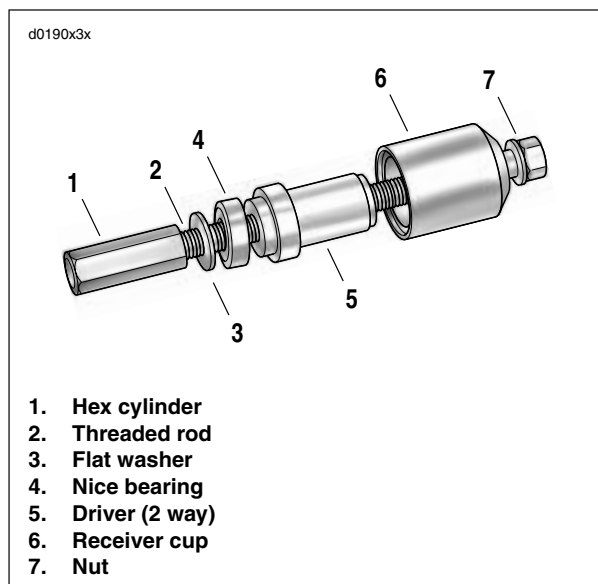

Figure 3-97. Connecting Rod Bushing Remover/Installer (Part No. HD-95970-32D)
2. See Figure 3-97. Attach PISTON PIN BUSHING TOOL (Part No. HD-95970-32D) to the connecting rod.